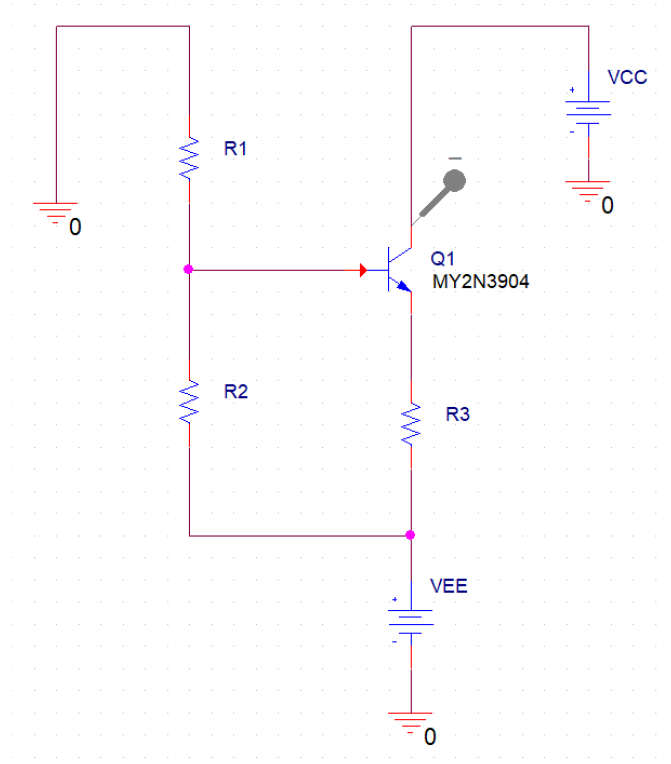

Fig. 6 Constant current sink using an NPN-BJT 2N3904
3.1 In PSpice, construct a current sink as shown in Fig. 6 and load the SPICE 3 model parameters for Q1 following the same procedure as in Step 1.1.
To avoid the change in I_B , we connect R_3 to the emitter of the BJT, as shown in Fig. 6, to work as a feedback resistor. For example, if $|V_{EE}|$ reduces, which causes I_B to be smaller than the designed value, the resulting I_E will produce a smaller voltage drop across R_3 and reduce V_E at the emitter terminal of Q_1 . This reduced V_E will increase the V_{BE} of Q_1 and, therefore, I_B .
Fig. 7 The equivalent circuit for the constant current sink in Fig. 6 with R_1 , R_2 , and power supply replaced by its Thevenin equivalent circuit V_{BB} and R_{BB} .
Q7. (15 Points) Inserting the feedback R_3 at the emitter of the BJT not only stabilizes the I_B but also improves (or increases) the output resistance R_o of the current sink shown in Fig. 6/ Fig. 7 (i.e., I_o is
Q10. (10 Points) When designing the constant current sink shown in Fig. 6, we assume that $|V_{CE}| \geq 0.3V$ and Q_1 works in the active region. Based on the resistance values obtained in Q9, sweep V_{CC} in Fig. 6 from -5 V to +5 V with a 0.05 V step and measure V_E and I_C to determine the $|V_{CE}|$ required for Q_1 to work in the active region.